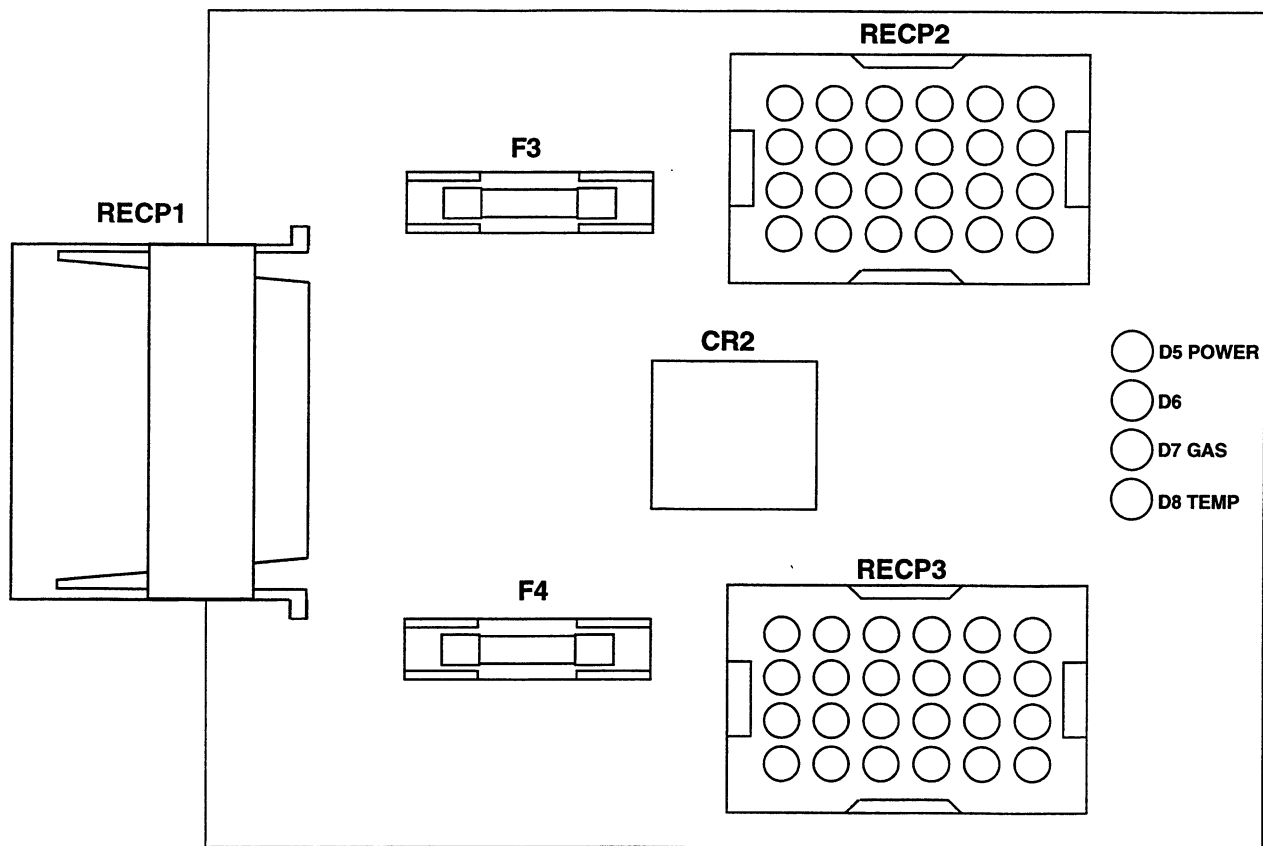

Figure 5-2 Power Distribution Board PCB2
6. Measure voltage at Power Distribution Board PCB2. Refer to Figure 5-2 for detail of PCB2. Look on the board for fuses **F3** and **F4**. Measurements between each fuse and chassis ground should be as follows:
Check that CR2 switches when ON pushbutton is pressed. See Figure 5-2 for location of CR2. If CR2 is defective, replace PCB2.</p> <p>2.2. Terminals to fans are not seated together securely and/or not getting 120VAC from Power Distribution Board.
2.3. PL2 and RECP2 on Power Distribution Board (see Figure 5-2 for location of RECP2) are not seated well. Check pins, connectors and associated wiring for good continuity. Repair or replace, if necessary.
3. The fans are operating, but the white READY indicator does not illuminate.	3.1. Pushbutton PB1 was not held down long enough. Press and hold PB1 for a minimum of 5 seconds. 3.2. Safety relay CON1 is defective. Check that CON1 switches after ON pushbutton is pressed. If CON1 is defective, replace it. 3.3. Unit did not pass one or more of the safety "interlocks". Remove the left cover to the power supply and observe the four LEDs on the Power Distribution Board. Press and hold PB1 again to observe which LED is not illuminated. The topmost LED that is not illuminated is the first problem that must be corrected. The following is a guide to troubleshooting the cause of extinguished LEDs. See Figure 5-2 for reference.